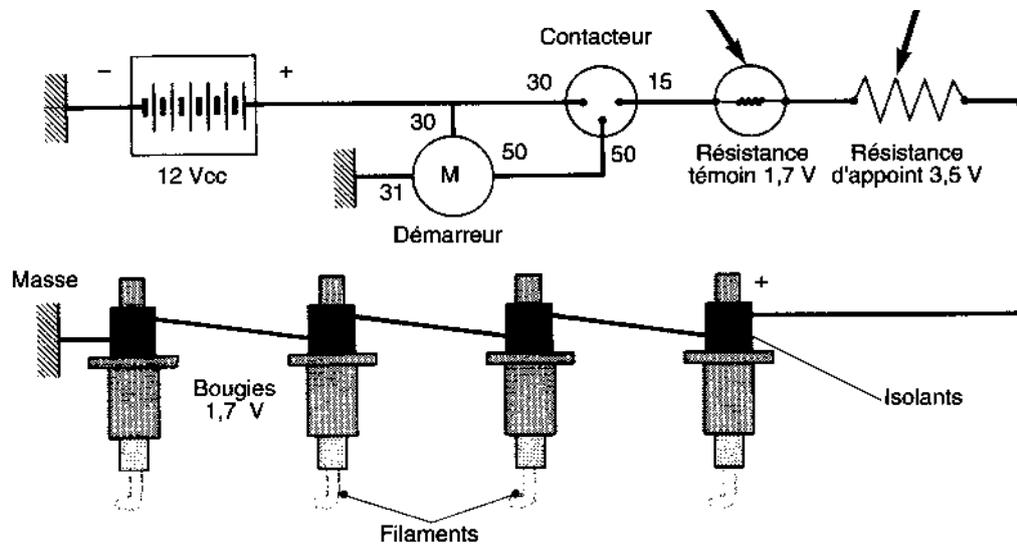

Fig.27
b) bougies bipolaires (fig.27)